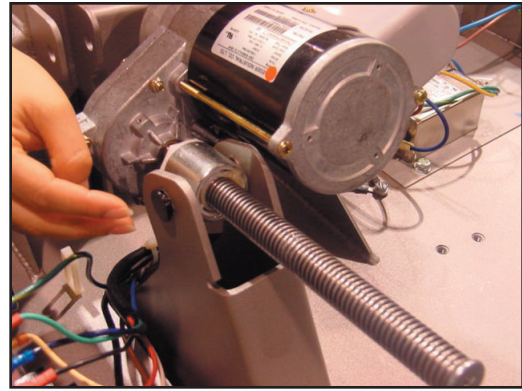
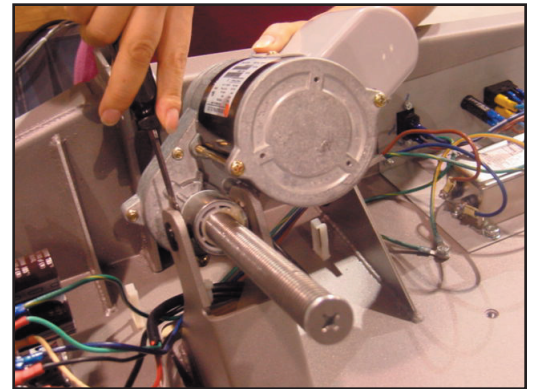

Figure 3
Figure 8
- 2.4 Remove the right Elevation nut (see Figure 3).
- 3.5 Align the Grade nut in the Grade weldment, than attach the Elevation nut and E-Ring clip. See Figure 3 and Figure 8.